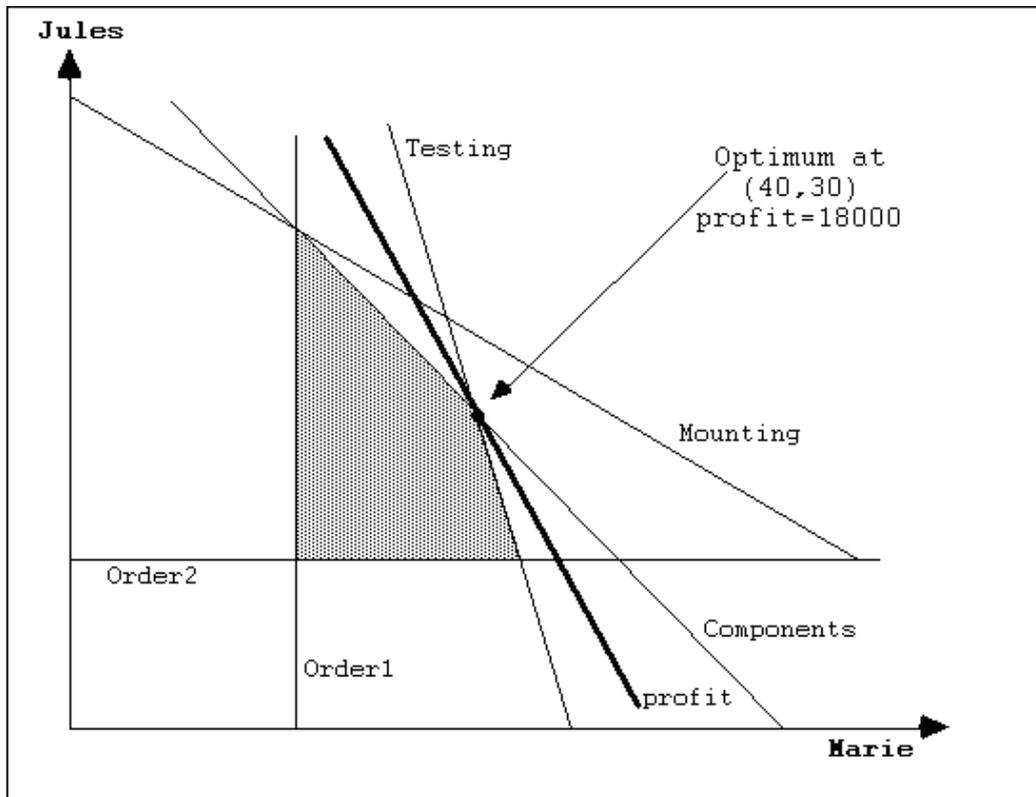

Figure 1: The Feasible Space
In a graphical way, the model represents the solution space as shown in Figure 1. That is, every (x, y) -point within the gray polygon represents a possible (feasible) production that fulfills all constraints. All other points in the two-dimensional space violate at least one of the constraints.
[[This part of the documentation is intended to gives a short comment about the solution of the model.]] The optimal solution is $x = 40$ and $y = 30$, which can be verified by Figure 1. It means that neither the quantity of x nor the quantity of y can be increased without violating one of the capacity constraint. On the other hand, a reduction of one of the quantities is "suboptimal": it reduces the **profit**, and hence it is no longer maximized.
2. Nothing, the solution is still $\{x = 40, y = 30\}$. This can be seen immediately from Figure 1: The **Mounting** capacity is not the limiting resource. So, extending it, changes nothing. To calculate it, change 480 to 500 in the model and run it again. Then look at the values of the variables again.